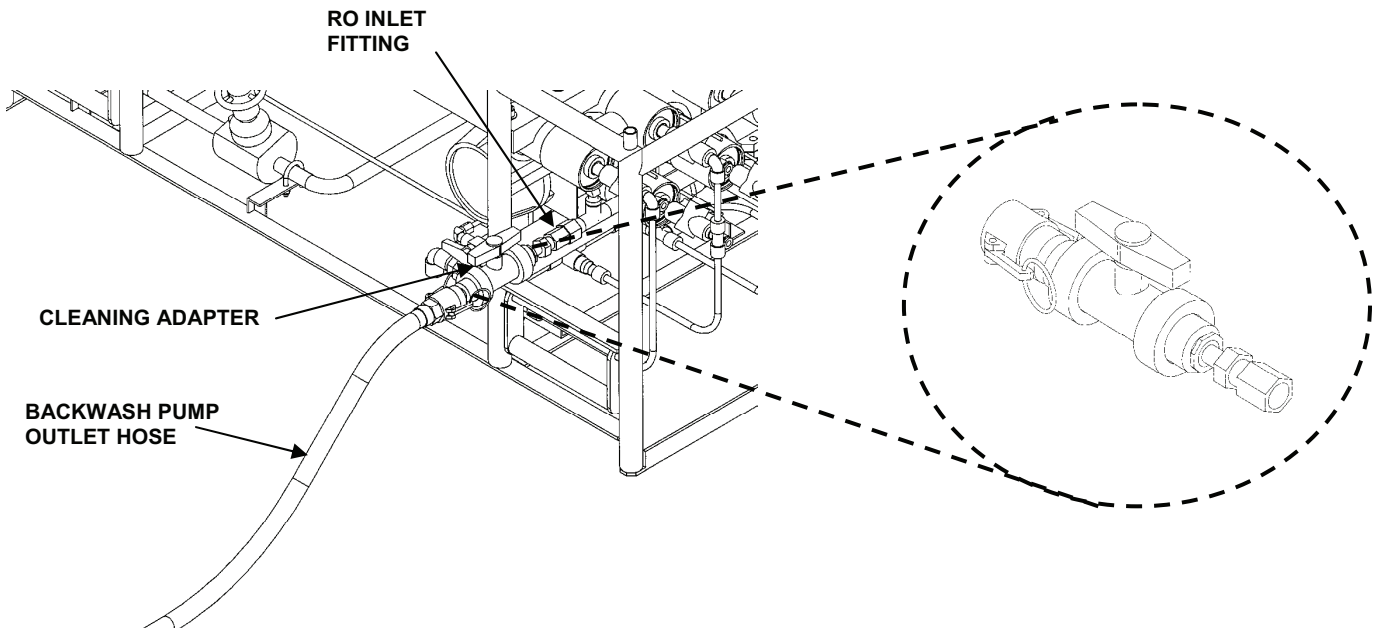

Figure 6. Cleaning Adapter Connection.
18. Retrieve the cleaning adapter from the BII box and connect it securely to the RO inlet fitting. See Figure 6.
19. Attach the backwash pump outlet hose (yellow) to the cleaning adapter. Ensure that the valve on adapter is open. See Figure 6.